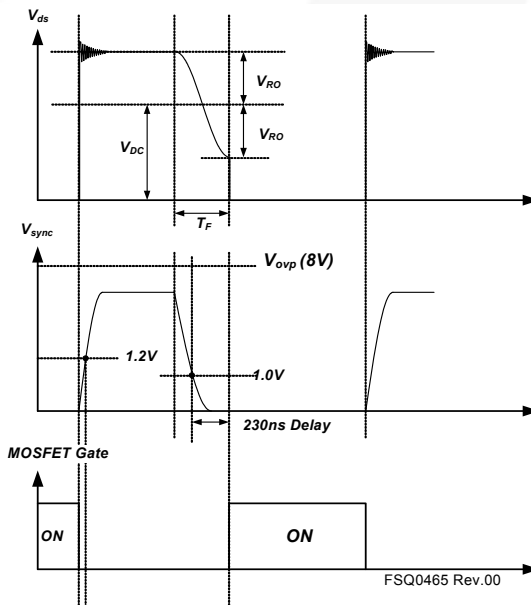
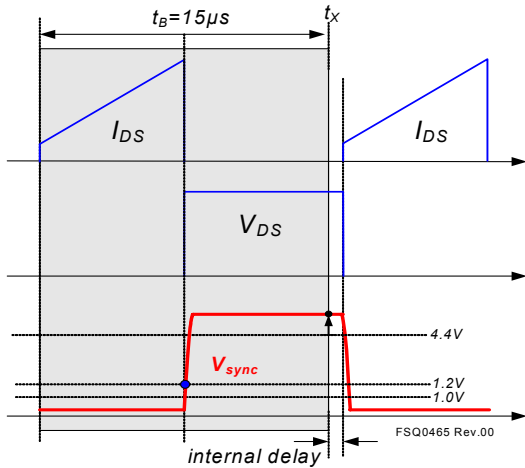

Figure 24. Quasi-Resonant Switching Waveforms
Figure 25.  $V_{sync} > 4.4V$  at  $t_x$
**3. Synchronization:** The FSQ-series employs a quasi-resonant switching technique to minimize the switching noise and loss. The basic waveforms of the quasi-resonant converter are shown in Figure 25. To minimize the MOSFET's switching loss, the MOSFET should be turned on when the drain voltage reaches its minimum value, which is indirectly detected by monitoring the  $V_{CC}$  winding voltage, as shown in Figure 24.
The switching frequency is the combination of blank time ( $t_B$ ) and detection time window ( $t_W$ ). In case of a heavy load, the sync voltage remains flat after  $t_B$  and waits for valley detection during  $t_W$ . This leads to a low switching frequency not suitable for heavy loads. To correct this drawback, additional timing is used. The timing conditions are described in Figures 25, 26, and 27. When the  $V_{sync}$  remains flat higher than 4.4V at the end of  $t_B$  which is instant  $t_x$ , the next switching cycle starts after internal delay time from  $t_x$ . In the second case, the next switching occurs on the valley when the  $V_{sync}$  goes below 4.4V within  $t_B$ . Once  $V_{sync}$  detects the first valley in  $t_B$ , the other switching cycle follows classical QRC operation.